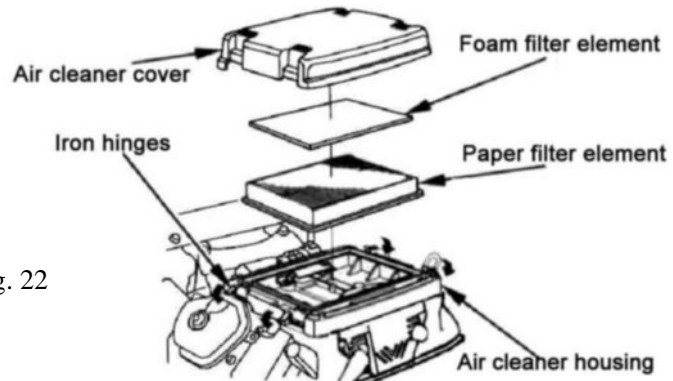

Fig. 22
- 1) Loosen the four iron hinges, dismantle the air cleaner cover (Fig.22), and check carefully if the two filter element are damaged, if the are, please change a new.